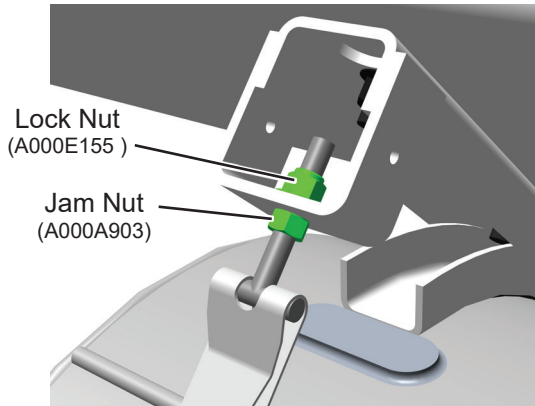

Figure 6 - Top Tank Strap Mount
9. Tighten top T-bolt jam nuts (A000A903) against mounting brackets hand tight. See Figure 6.
10. Final tighten top tank strap top T-bolt lock nuts to 60 ft. lbs. See Figure 6.